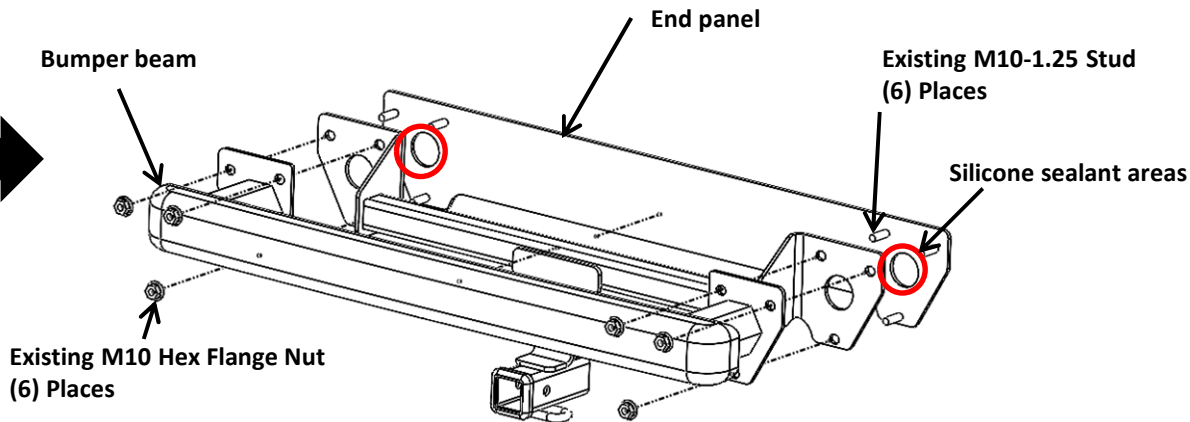

**Figure 1**
3. **Remove bumper beam** – Remove the caulking around the bumper beam mounting surface. Using a 15mm socket with extension, remove (6) M10 flange hex nuts. Set bumper beam aside. Keep M10 hex flange nuts for hitch installation. **See Figure 1.**